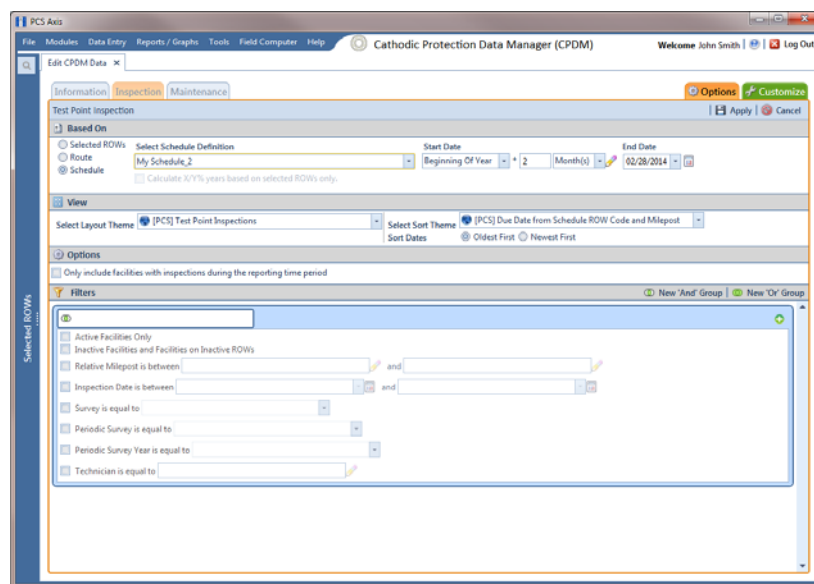

Figure 7-41. Based On Schedule
- 8 To set a schedule date range using dynamic start and end dates, follow these steps (Figure 7-41):